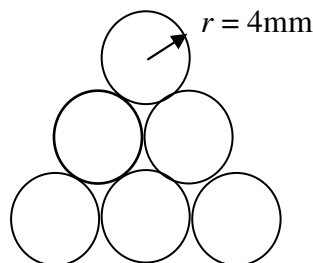
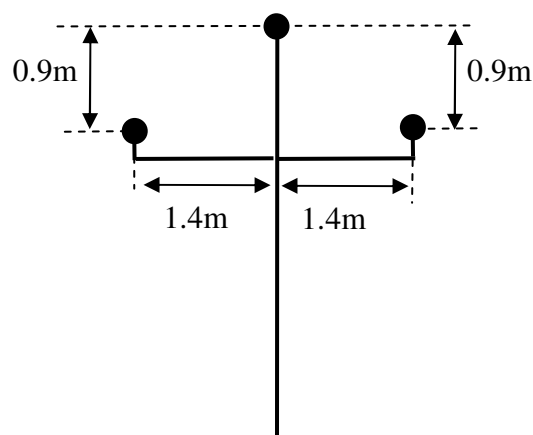

Figure 2.1 Layout of Strands
Figure 2.2 Layout of Phases
- a. (i) Explain the advantage of using bundled conductors on high voltage overhead transmission lines. (2)
- (ii) Explain why the conductors of long overhead transmission lines are transposed. (2)
- (iii) Show that, if skin effect is neglected, the component of self-inductance due to the magnetic field within a solid circular conductor is independent of the radius of the conductor. (4)
- b. A 11kV 50Hz, fully transposed 3-phase transmission line is proposed to connect a new wind turbine to a local sub-station. The line will use the 6-strand bundled conductor shown in Figure 2.1 and will have a phase layout as shown in Figure 2.2. The length of the line is 15km.
- (i) Show that the geometric mean radius of the 6-strand conductor shown in Figure 2.1, in which the radius of each strand is 4 mm, is 8.4 mm. (6)
- (ii) Calculate the geometric mean distance between phases for the layout shown in Figure 2.2, and hence calculate the reactance of the 15km line. (You may assume the inductance per metre for the fully transposed line is given by: